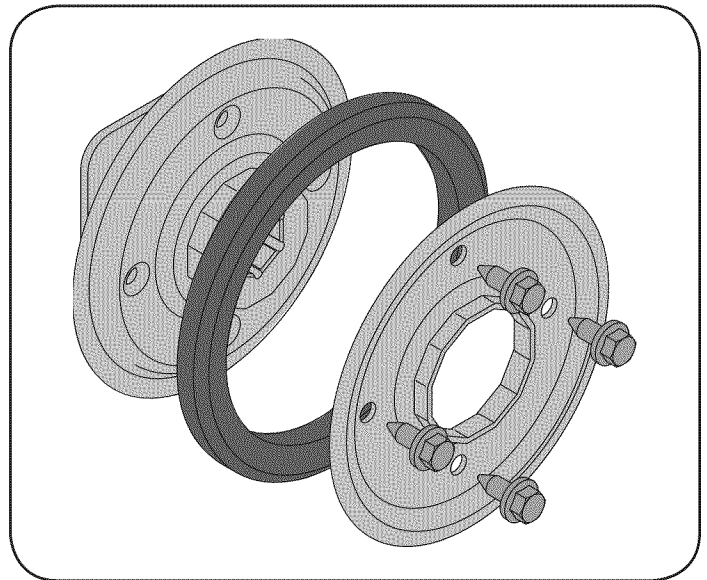

Figure 34
- Remove the four screws which secure the friction wheel's side plates together. See Figure 34.